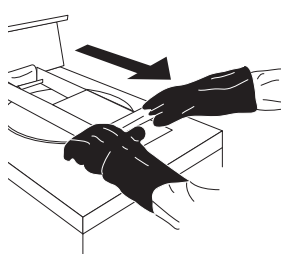

FIGURE 10
- A. Use both hands on handlebar to lower lid. (Figure 10)